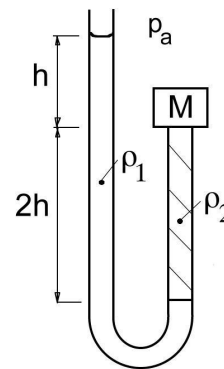

Figure P2.15
2.15 A manometer tube is filled with a two fluids with densities $\rho_1 = 1000 \text{ kg/m}^3$, and $\rho_2 = 800 \text{ kg/m}^3$, as shown in Figure P2.15. The tube has a diameter of 10 mm. One end is open to atmospheric pressure, and the other end is blocked by a block of steel of mass $M = 0.1 \text{ kg}$. Find the height h where the steel block is about to be dislodged.